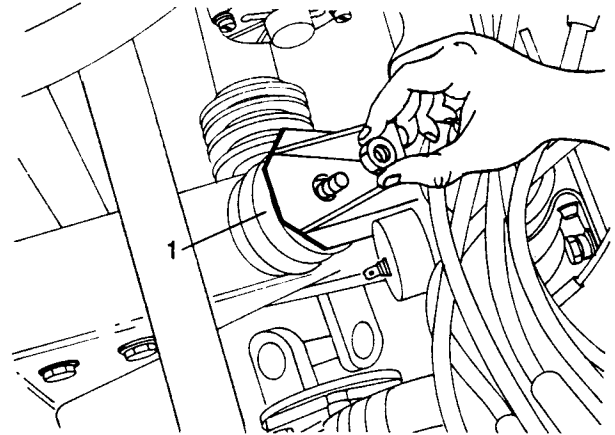

Fig B4.18
(4) Refer to Fig B4.18. Insert and secure the engine front mounting rubbers (1).
(5) Remove the sling and engine lifting brackets.